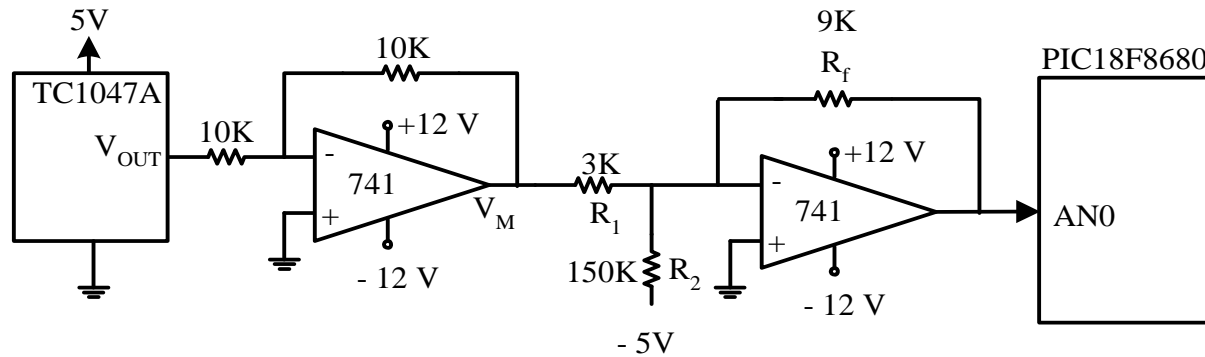

Figure 12.15 Circuit connection between the TC1047A and the PIC18
- The digital thermometer circuit is shown in Figure 12.15.